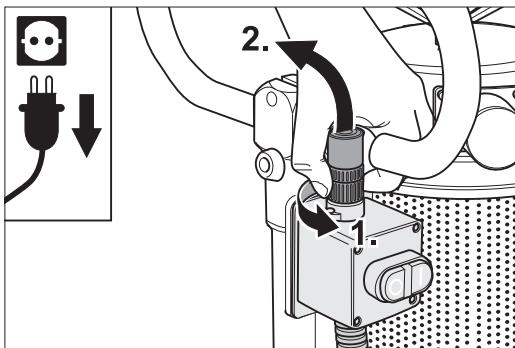

Fig. 18 Loose the ring nut and remove the plug from the switch.
- 3 Loosen the cable plug of the sensor on the on/off switch by turning the ring nut; pull out plug (Fig. 18).